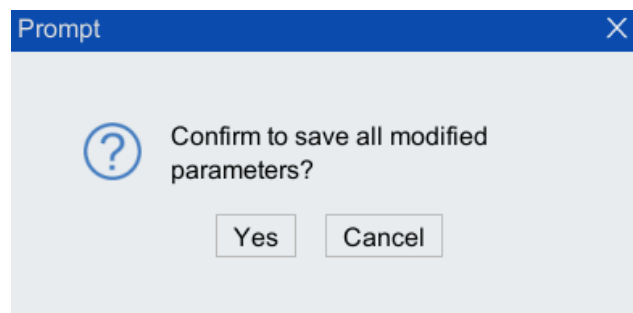

Figure 10-23 Save confirmation prompt interface
Step7.In the pop-up [Prompt] interface, click <Yes>. As shown in Figure 10-23.